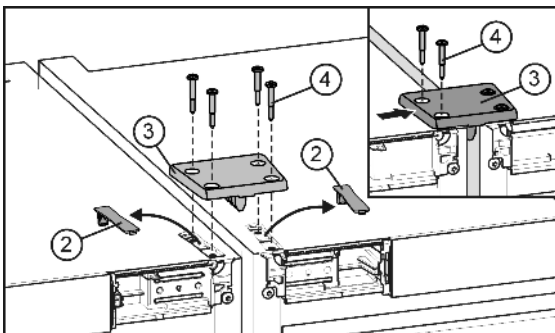

Fig. 5
- Unclip and remove the covers Fig. 5 (2).
- Put the joining plate Fig. 5 (3) in place and fix it loosely to one appliance with two screws Fig. 5 (4).